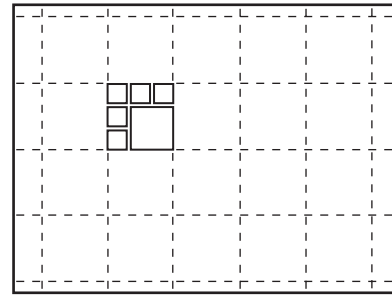

Fig. 24 - Lay out additional chalk lines the exact dimensions of the pattern
- Use the measurement of the full pattern repeat to lay out additional chalk lines to keep joints straight (Fig. 24).